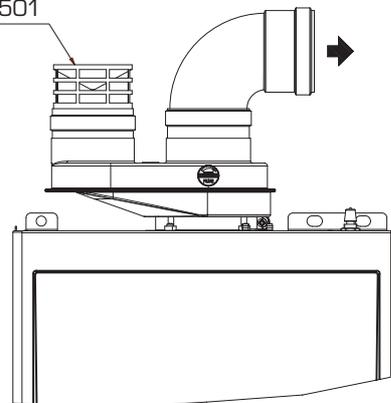

Fig. 10
**2.9 FORCED EXHAUST TYPE B22P-B52P (fig. 10)**
In “25-30 BF” models this type of exhaust pipe is installed using the special kit, code 8093020. For kit assembly instructions, refer to point 2.8.1. Protect the intake with the optional accessory, code 8089501 (fig. 10). The air/combustion product divider code 8093020 is supplied with aspiration diaphragm that must be engaged, depending on the maximum head loss allowed, as indicated in fig. 8/a.